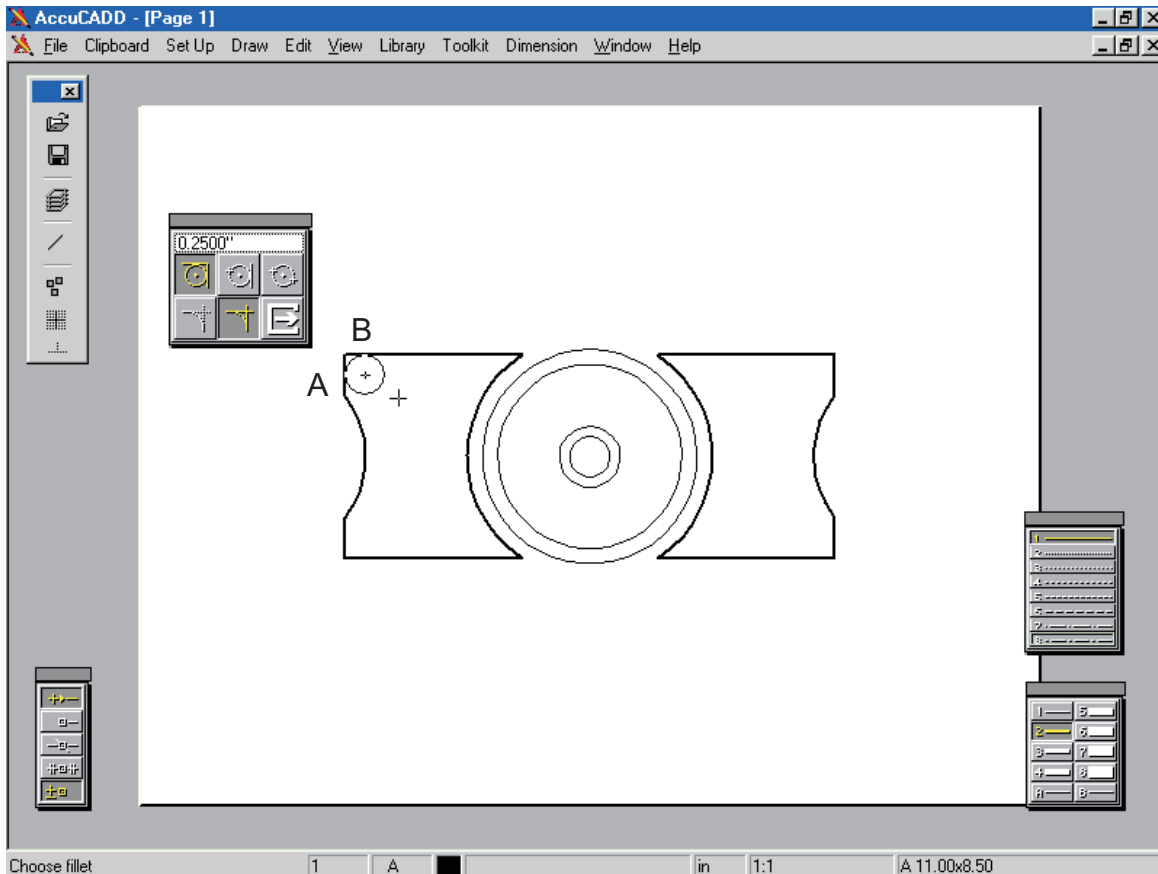

Figure 19: Filleting of lines and arcs
☐ Zoom x2 to get a closer look, as Figure 19. “Trap” line (A), by planting the rectangular cursor over it (anywhere will do), touch once, then do the same thing with the adjoining line (B). This displays a full circle, which you can drive around
□ Use Part Erase to trim the filleted corners, as Figure 19, below.